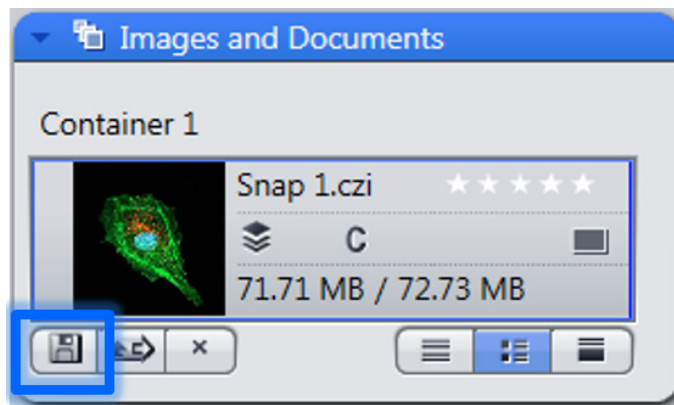

Fig. 24 Saving images
- Save the image by clicking the **disk icon** in the image and document handling section in the right screen area (Fig. 24). Alternatively, you can use the **File | Save** command from the menu bar.